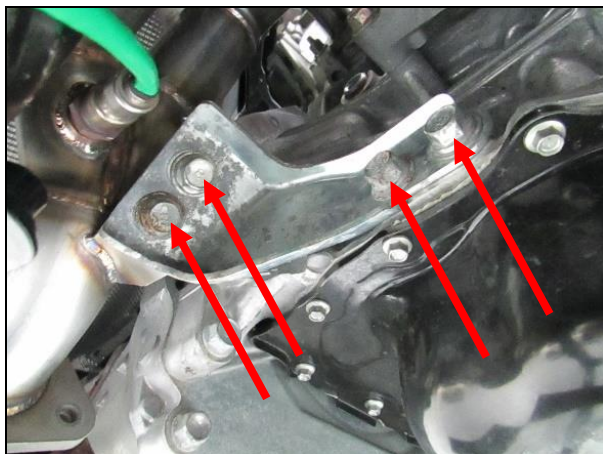

Figure 14
4. Reinstall the OEM manifold bracket and tighten (x4) 14mm bolt heads (**Figure 14**).